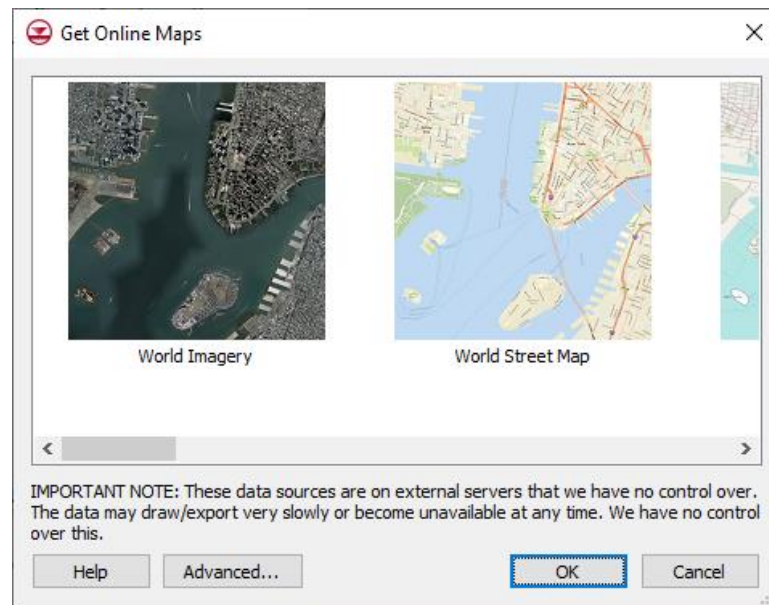

Figure 14 Get Online Maps dialog
- Click **OK** to close the *Virtual Earth Map Locator* dialog and open the *Get Online Maps* dialog (Figure 14).